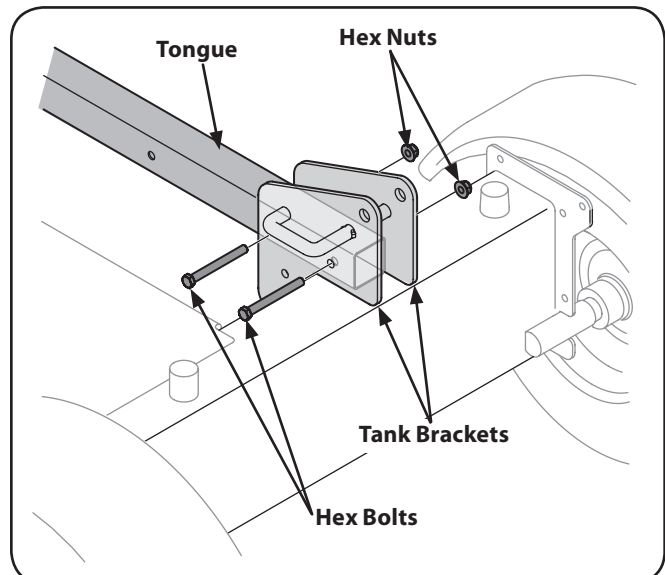

Figure 3-2
9. With the log splitter still secured to the bottom of the crate, remove two hex bolts and hex nuts from the tank bracket and remove the piece of wood inside the tank brackets. See Fig. 3-2.
10. Align the holes in the tongue with the holes in the tank bracket and secure with the hardware just removed. See Fig. 3-2.